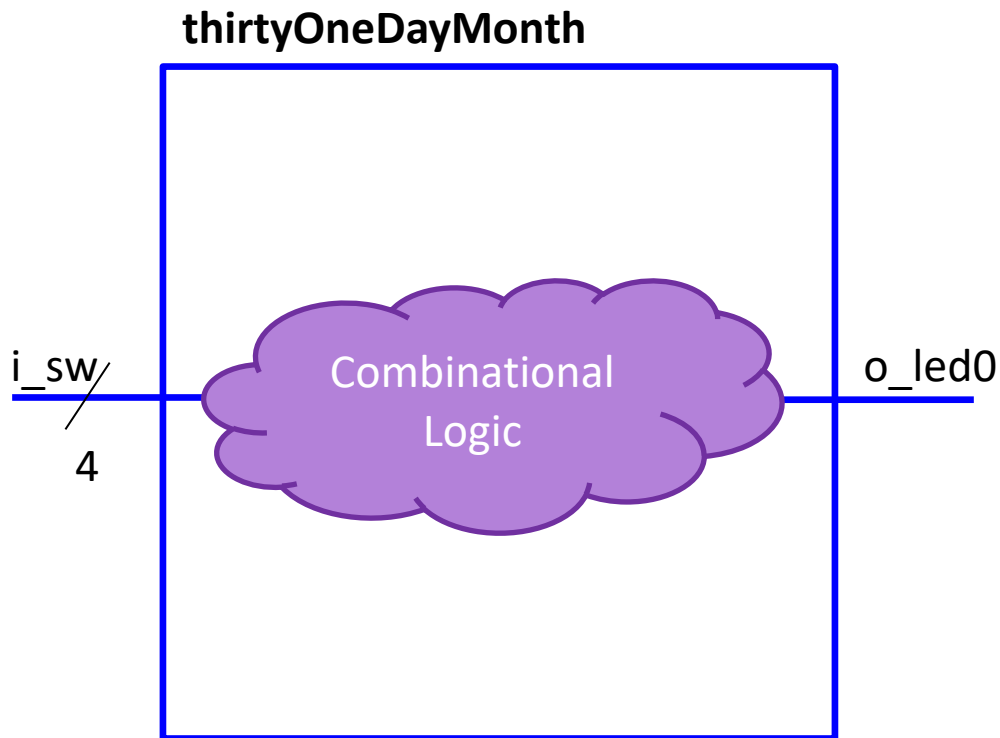

Figure 3 – thirtyOneDayMonth entity and architecture
**Create your interface (ports) for thirtyOneDayMonth according to Figure 3 below.** Figure 3 shows the thirtyOneDayMonth module entity interface in blue and the architecture in purple. Notice that the figure indicates that the input, `i_sw`, is a bus of 4 wires. This can be created in VHDL by using a **`std_logic_vector`** signal type. For instance, `i_sw` could be created in the **port** statement with the following:
- In the CONCURRENT STATEMENTS section, map the input i\_sw to the signals you created above per Figure 3. For instance: